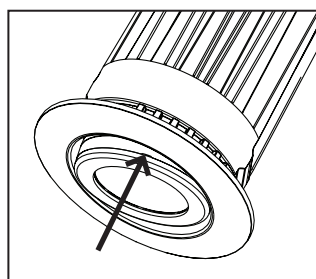

Figure 19
Step 1. Insert a small screwdriver into the slots between the gimbal face and body. Pry off the face. It may be necessary to pry in a few locations to pull the face evenly off. Optic will come free after the face is pulled off (Fig. 19).